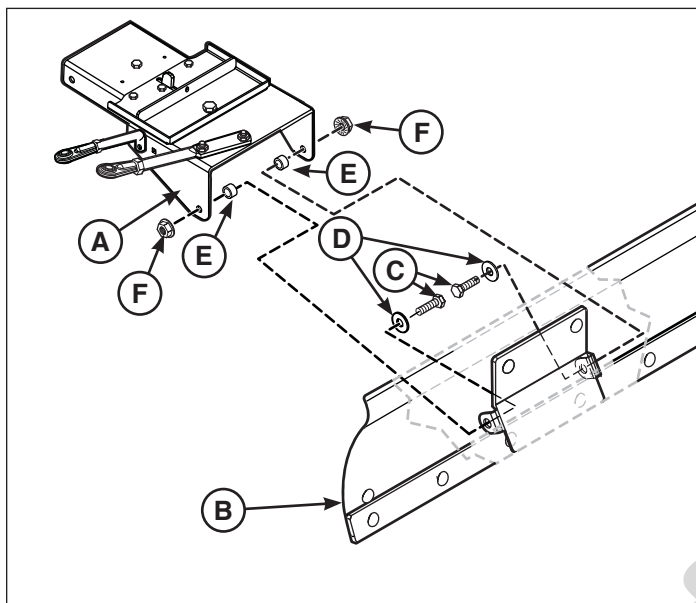

Figure 7
1. Attach the hitch lift assembly (A, Figure 7) to snow blade assembly (B) using 1.25" cap screw (C), washer (D), spacer (E) and nut (F).